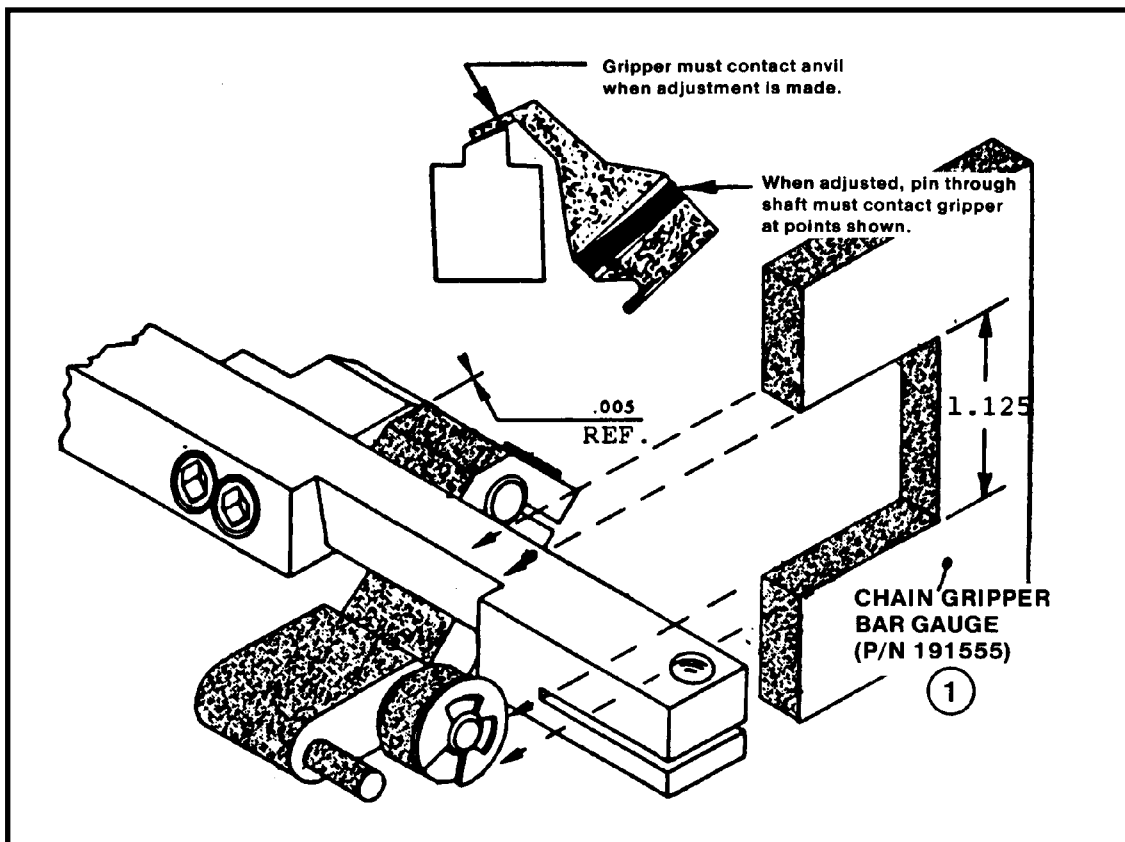

Figure 63 - Cam Follower Adjustment
3. Check to ensure that all cam followers are adjusted to 1.125" using the chain gripper bar gauge (1) (P/N 191555) (see Figure 63).